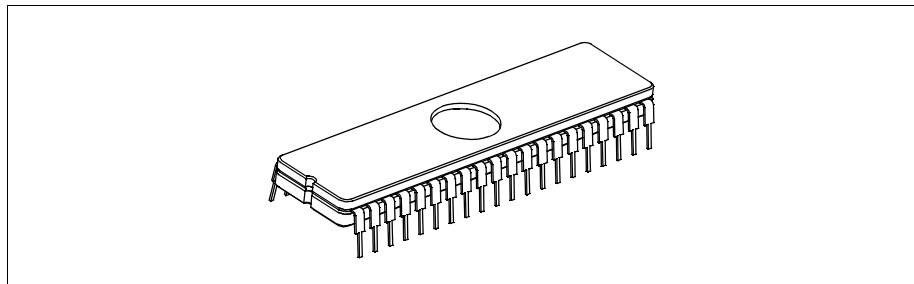

Figure 4.5: Windowed Device
- Remove any labels covering the device window. If you do not have a windowed device (Figure 4.5), you cannot reprogram it. A windowed version of all EPROM devices may be ordered by requesting the JW package.